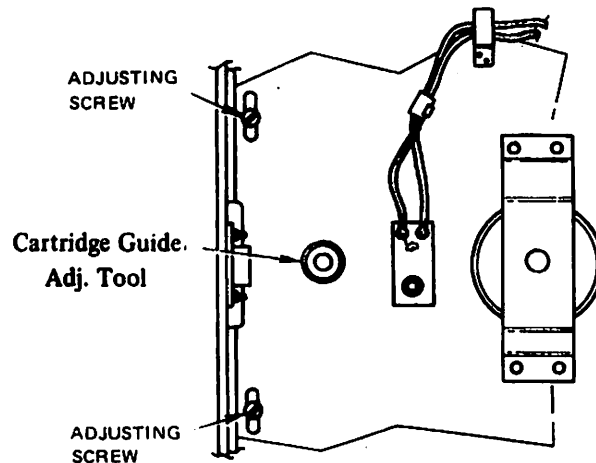

FIGURE 10 CARTRIDGE GUIDE ADJUSTMENT
① DOOR LATCH ADJ: 726-9612
- a. Insert the shoulder screw (tool p/n 50377) through the adjustment hole in the cartridge guide and screw completely into the base casting (hand tight). Reference Figure 10.